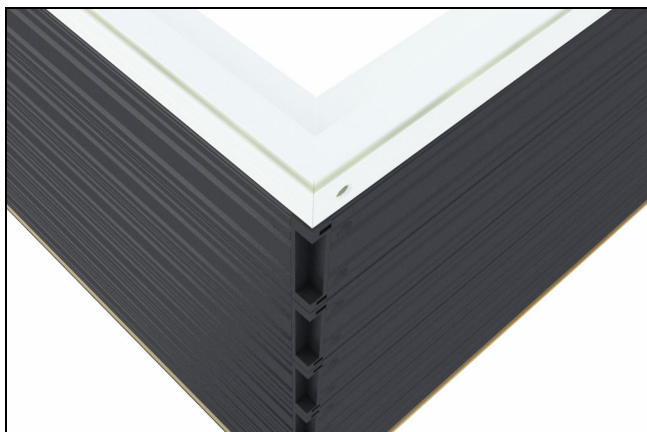

Figure 30
2. Align side jamb to head jamb, using frame cladding corner key as reference. Slide until miter is aligned. See figure 30.